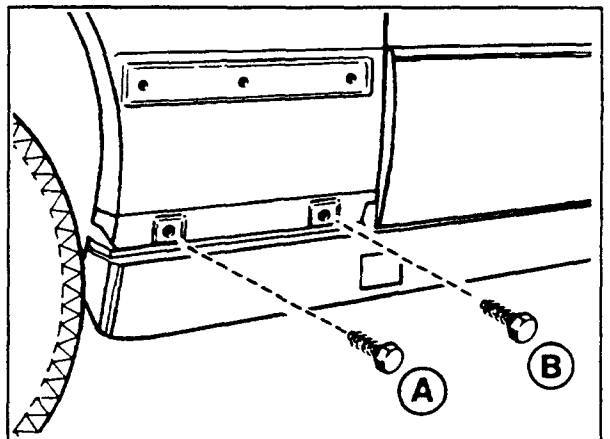

Figure 11
3. Remove the two fastening bolts (A and B, Figure 11).